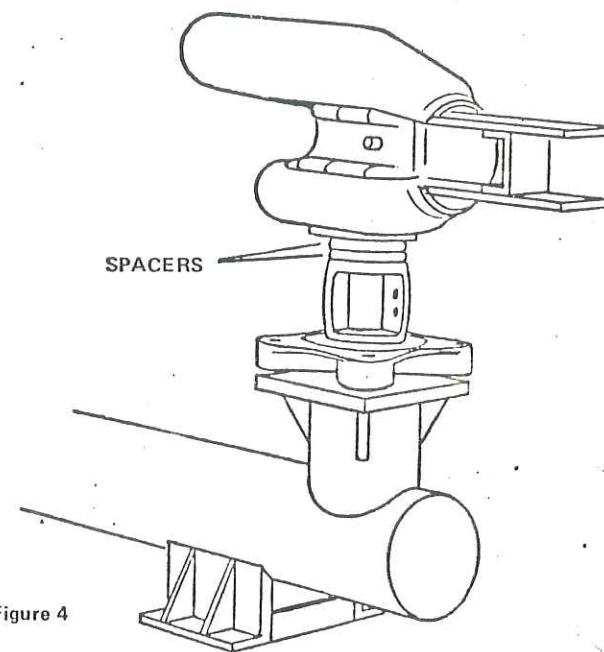

Figure 4
3. Remove the bolts that mount the jaws to the base adaptor. See Figure 4. There will be two 1/2 inch spacers that fit under each jaw. Retain these spacers with the jaw for later use.